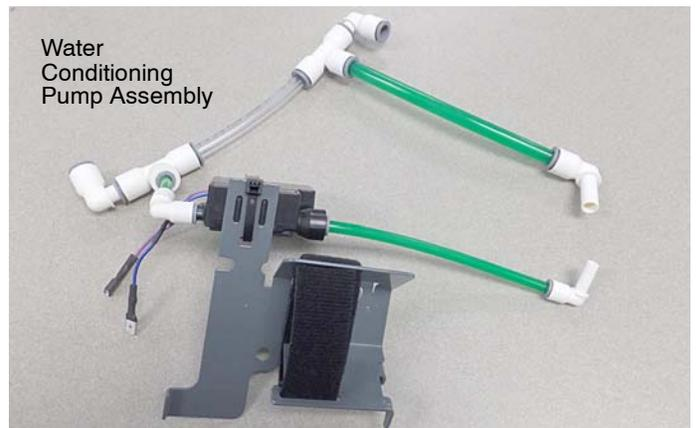

Fig. 46
- Install the ec-H2O water conditioning pump assembly as described in following steps (Figure 46).